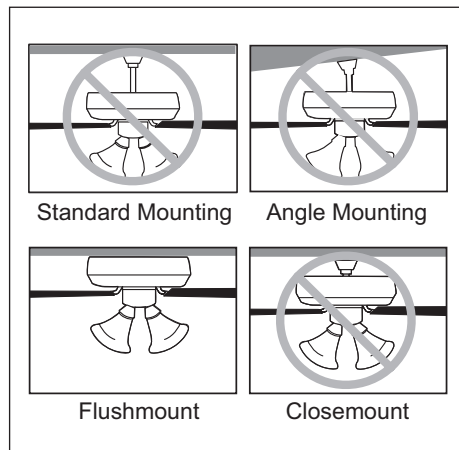

Figure 1.2
2. This fan is intended for flushmount installation only (Figure 1.2).